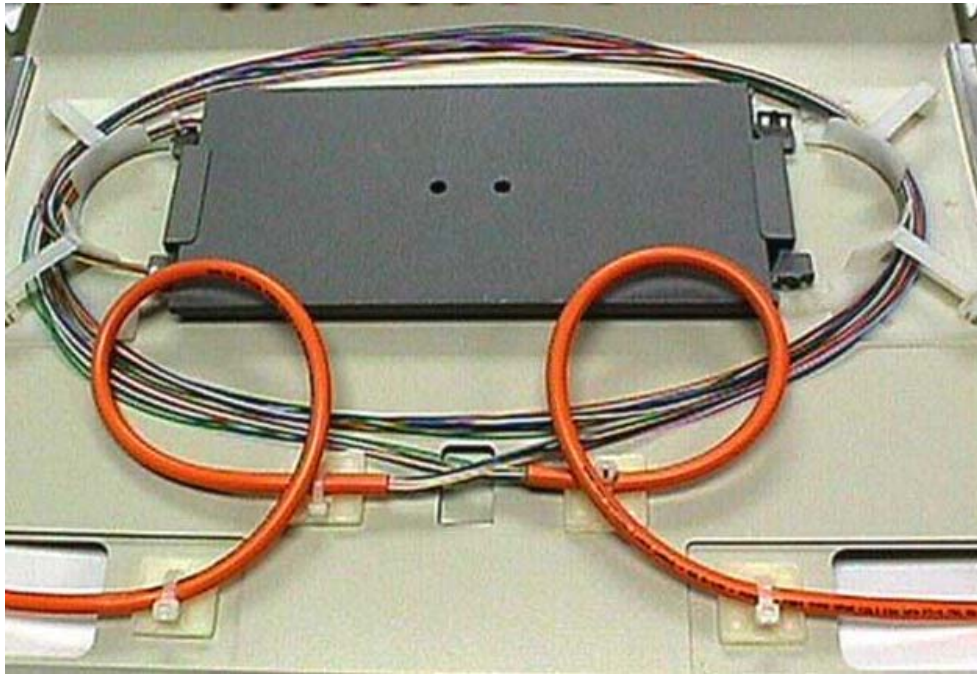

Figure 6.2
6.2.5 Route the cable through the ring. Refer to Figure 6.2.
6.2.7 Loop the jacketed fiber and secure to the tie wrap holdown block located on drawer with a tie wrap as shown in Figure 6.2.